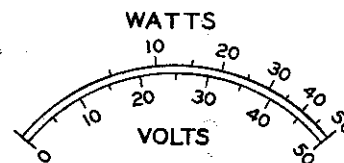

Fig. 2-2. Comparison - Illustrative Watt and Volt Scales
(2) When the voltmeter is a linear type, the watt scale will be as shown in Fig. 2-2. This compares equivalent voltage and power scales for a hypothetical 50 ohm, 50 watt, 50 volt instrument. Half full-scale deflection is obtained at one-fourth full-scale power, and this scale, expanded at low readings is convenient in getting better readability at low scale readings. The voltmeter used in the RF Wattmeter Model 61 is approximately linear and scales are of the type shown in Fig. 2-2.